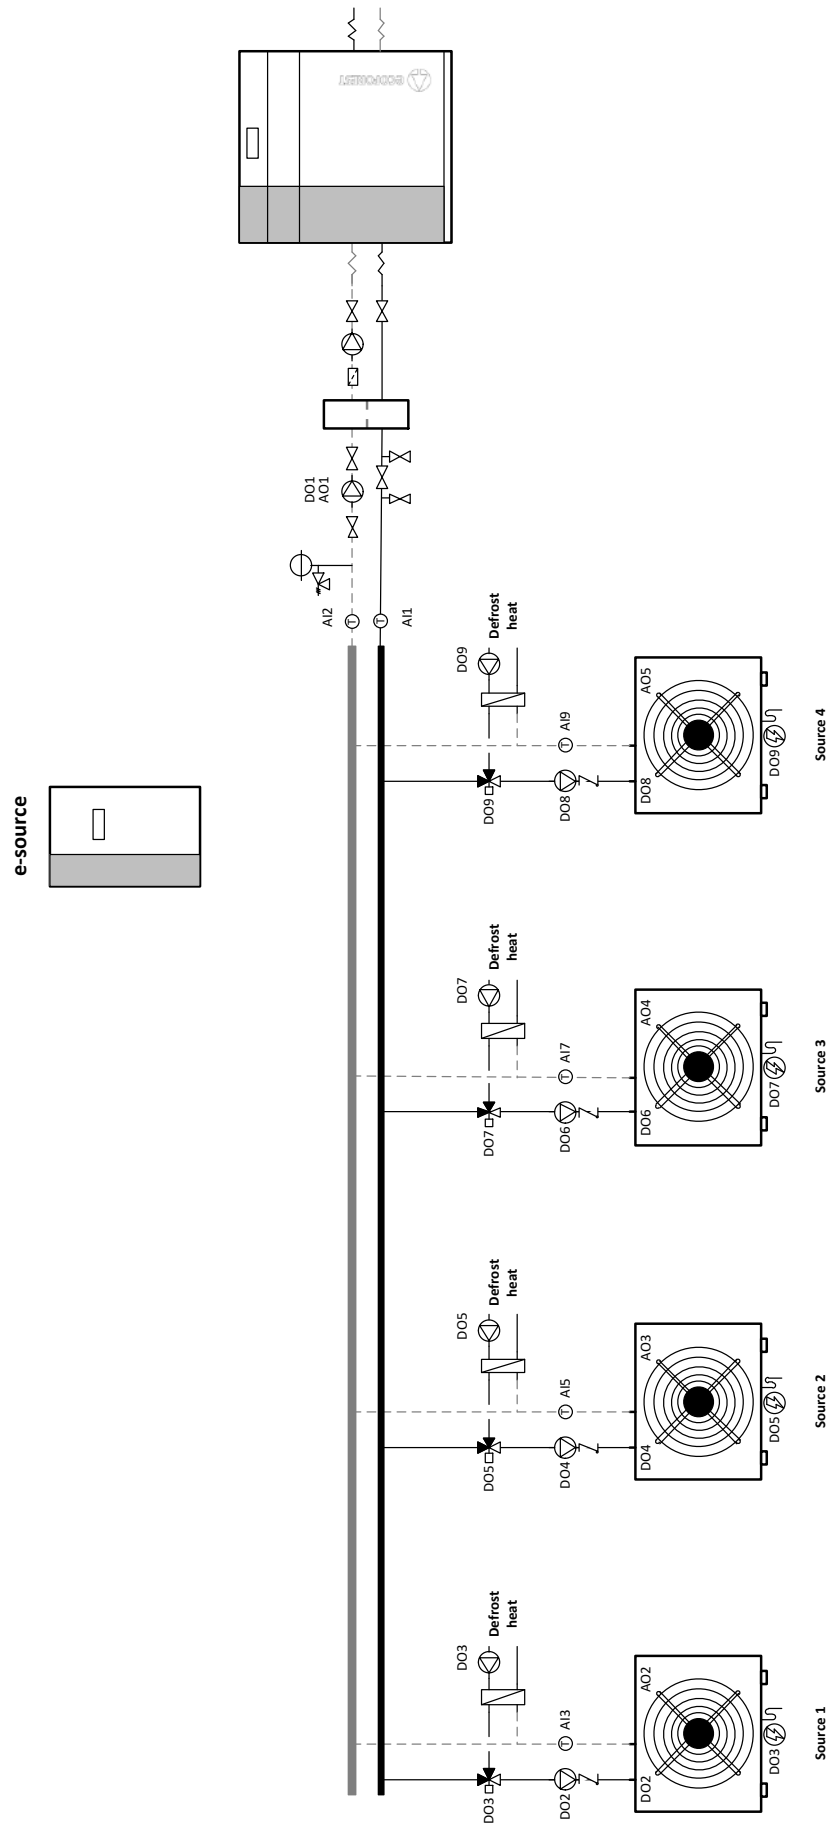

Figure 4.2. General electrical connection scheme 1.
Figures 4.2 and 4.3 show installation examples to indicate the electrical connections of the components.
- The schemes in figures 4.2 and 4.3 are provided only to indicate the electrical connections. The hydraulic design of the brine system should be carried out by a specialist. Its use in full or in part, as well as any reproduction or transfer to third parties, is the responsibility of the installation company.